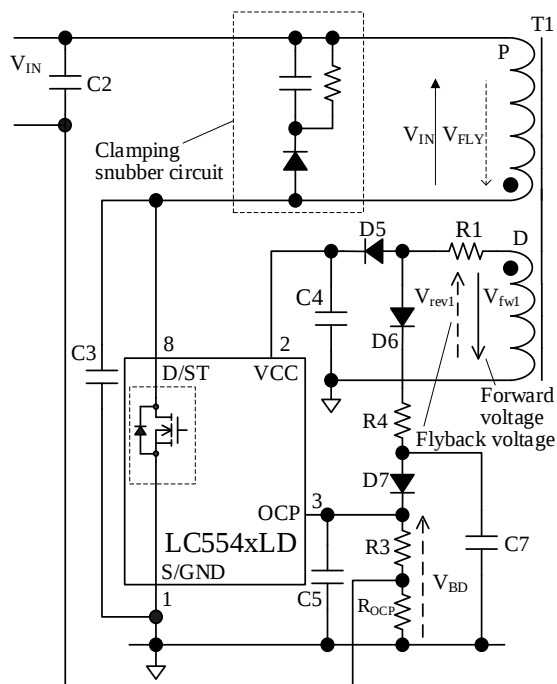
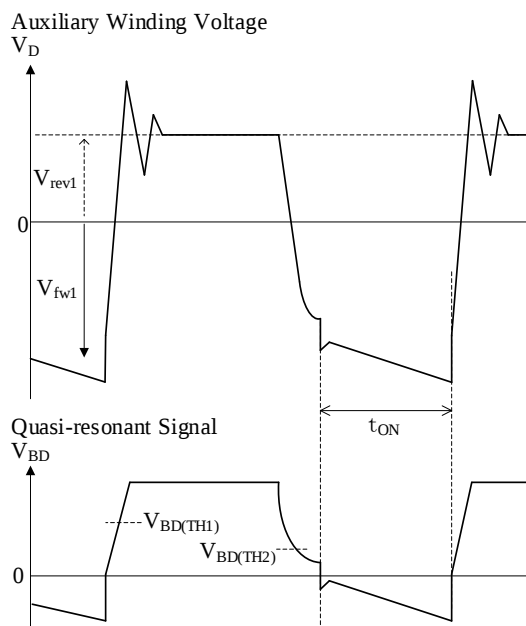

Figure 8-14. OCP Pin Peripheral Circuit
Figure 8-15. Auxiliary Winding Voltage
Figure 8-14 shows an OCP pin peripheral circuit, Figure 8-15 shows the waveform of an auxiliary winding voltage. The OCP pin detects the auxiliary winding voltage, which is synchronized with the V_{DS} waveform, through a delay circuit (D6, R4, C7, and D7 in Figure 8-14). The bottom-on operation is controlled by the delayed signal. The delay time, t_{ONDLY} , is the period from when V_{DS} free oscillation starts to when the power MOSFET turns on. The delay time is then adjusted by the delay circuit. During the power MOSFET turn-off, the positive voltage is supplied through the delay circuit to the OCP pin from auxiliary winding. This input signal to the OCP pin is defined as a quasi-resonant signal, V_{BD} .
- Add C5 of Figure 8-14 near the IC with minimizing a trace length between the OCP and S/GND pins.